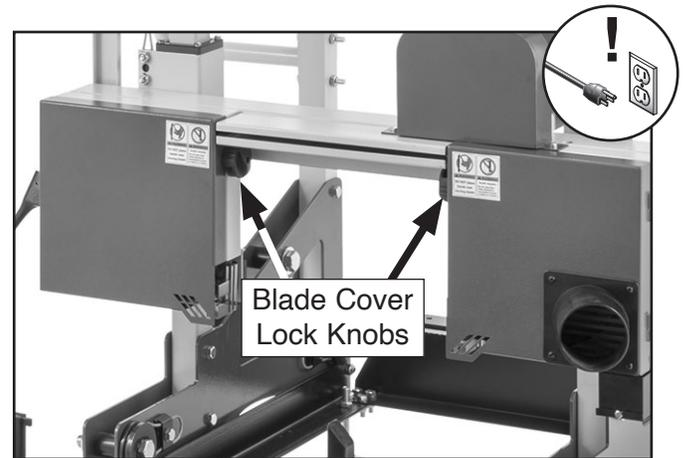

Figure 109. Location of blade cover lock knobs.
2. Turn blade cover lock knobs clockwise to open blade covers (see **Figure 109**).